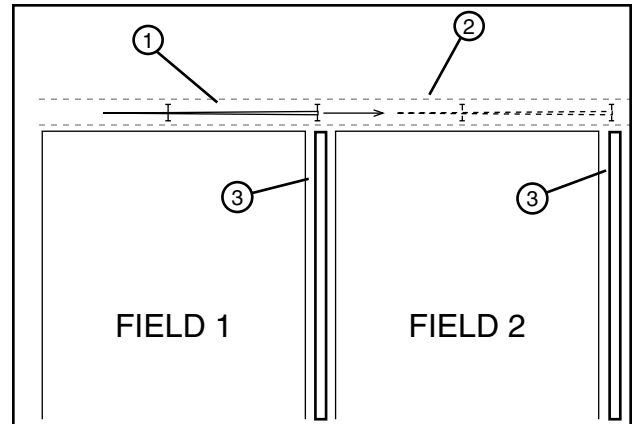

Figure 81-1 1. Machine 2. Tow Lane 3. Ditch
1. Position the machine in the tow lane. See figure 81-1.